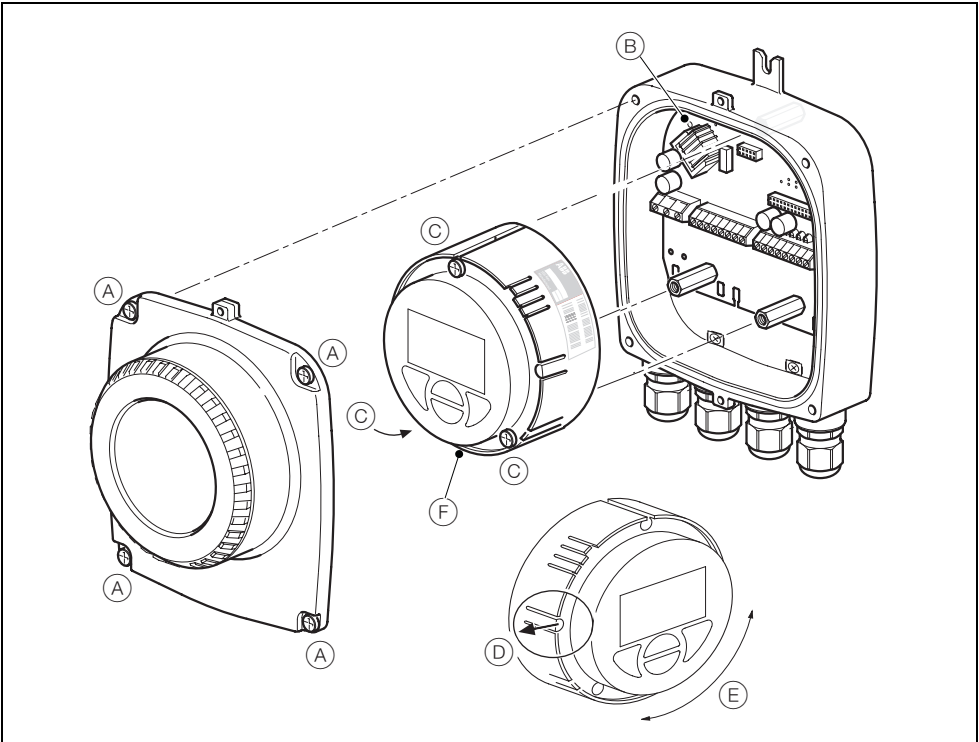

Fig. 4.8 Accessing the Transmitter Terminals
Referring to Fig. 4.8:
- Confirm that the cartridge to be fitted is of the correct power supply type by checking the label (A) on the side of the cartridge:
- Align the three cartridge screws (B) with the cartridge housing pillars and tighten the screws carefully until the cartridge is held in position.
- If necessary, rotate the cartridge to the required orientation before refitting the cover – see Fig. 4.8, page 20 for details.